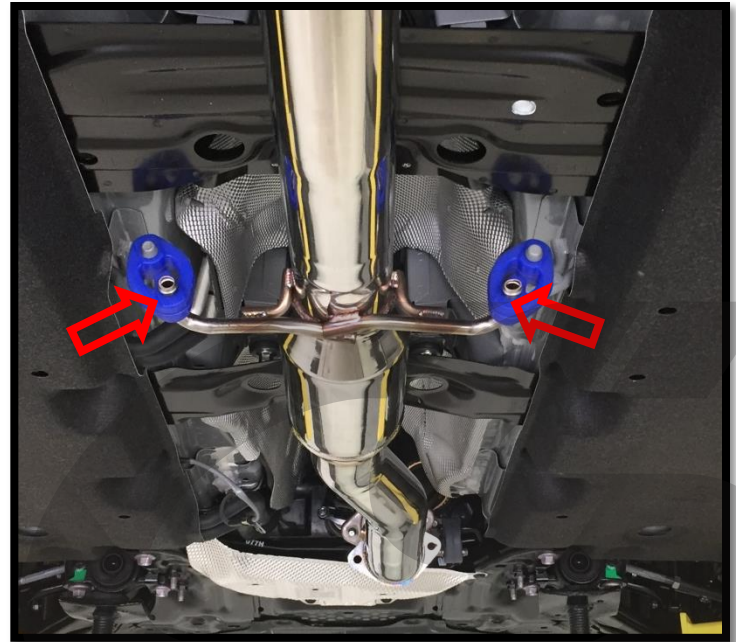

Figure 5a
- a) **Install the CorkSport Midpipe Front section onto two OE rubber hangers.** Place the two exhaust hangers into two stock blue rubber hangers (red arrows in Figure 5a). The rubber hangers should support the midpipe front section.